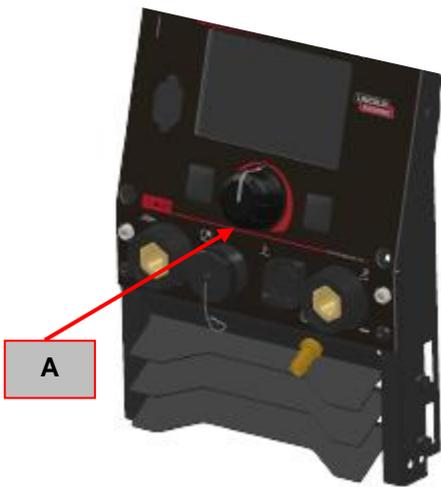

Figure 33
4. Using the 2mm allen wrench loosen the allen screw (**A**) that secures the knob and remove it. See **Figure 33**.